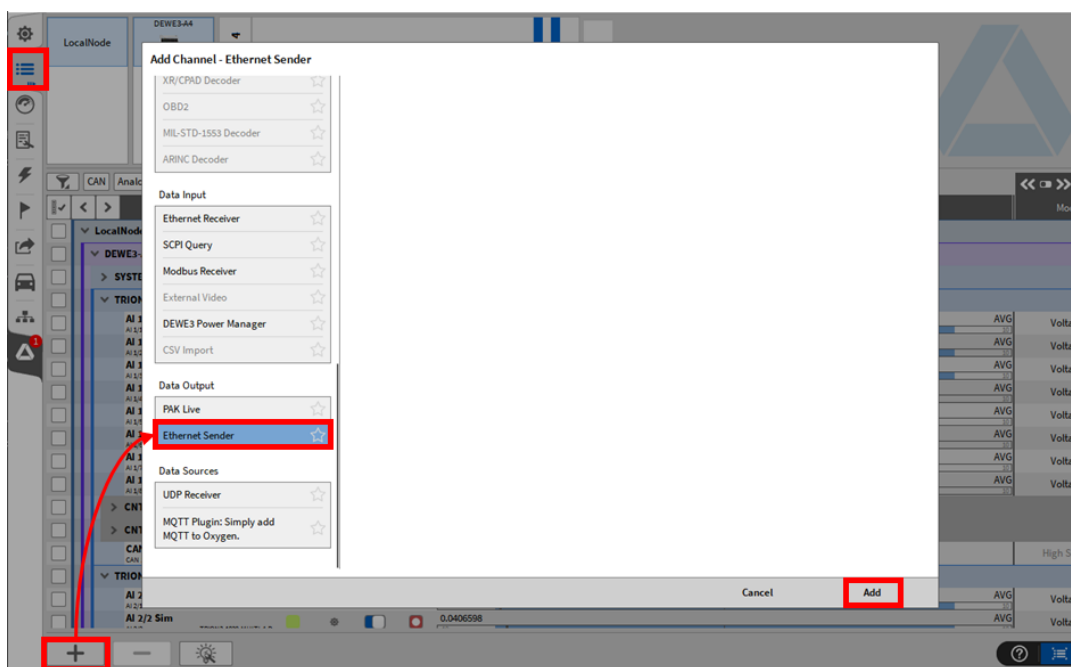

Figure 2-1: Adding an Ethernet Sender to OXYGEN
- Start OXYGEN and Open the Channel List (see yellow box in Figure 2-1)
- Select the channels that shall be transferred via UDP by marking their respective check box on the left hand side (see orange box in Figure 2-1)
- Click on the + button (see blue box in Figure 2-1)
- Click on *Ethernet Sender* in the *Data Transfer* group (see purple box in Figure 2-1)
- Click on the *Add* button (see green box in Figure 2-1)